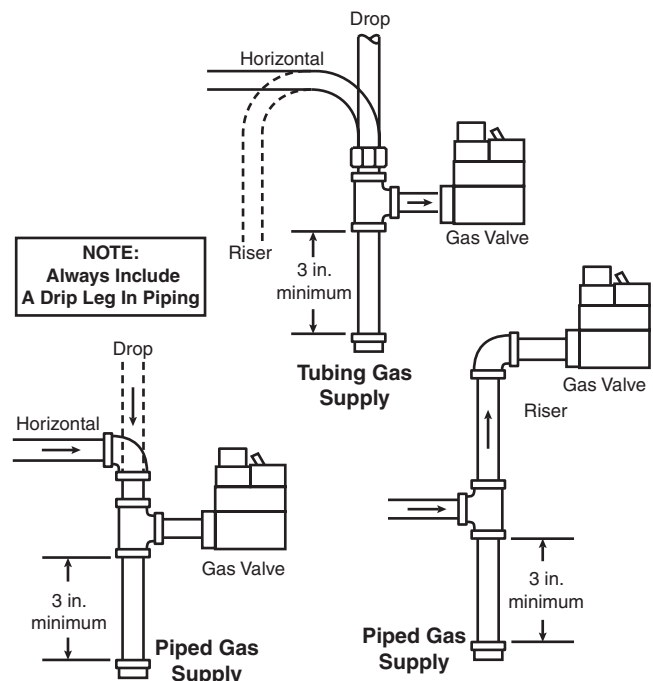

Figure 2. Typical Gas Valve Piping
7. Apply pipe joint compound (pipe dope) **that is approved for all gases, only to the male threads of the pipe joints. DO NOT** apply compound to the first two threads (see figure 2 for typical piping connections).